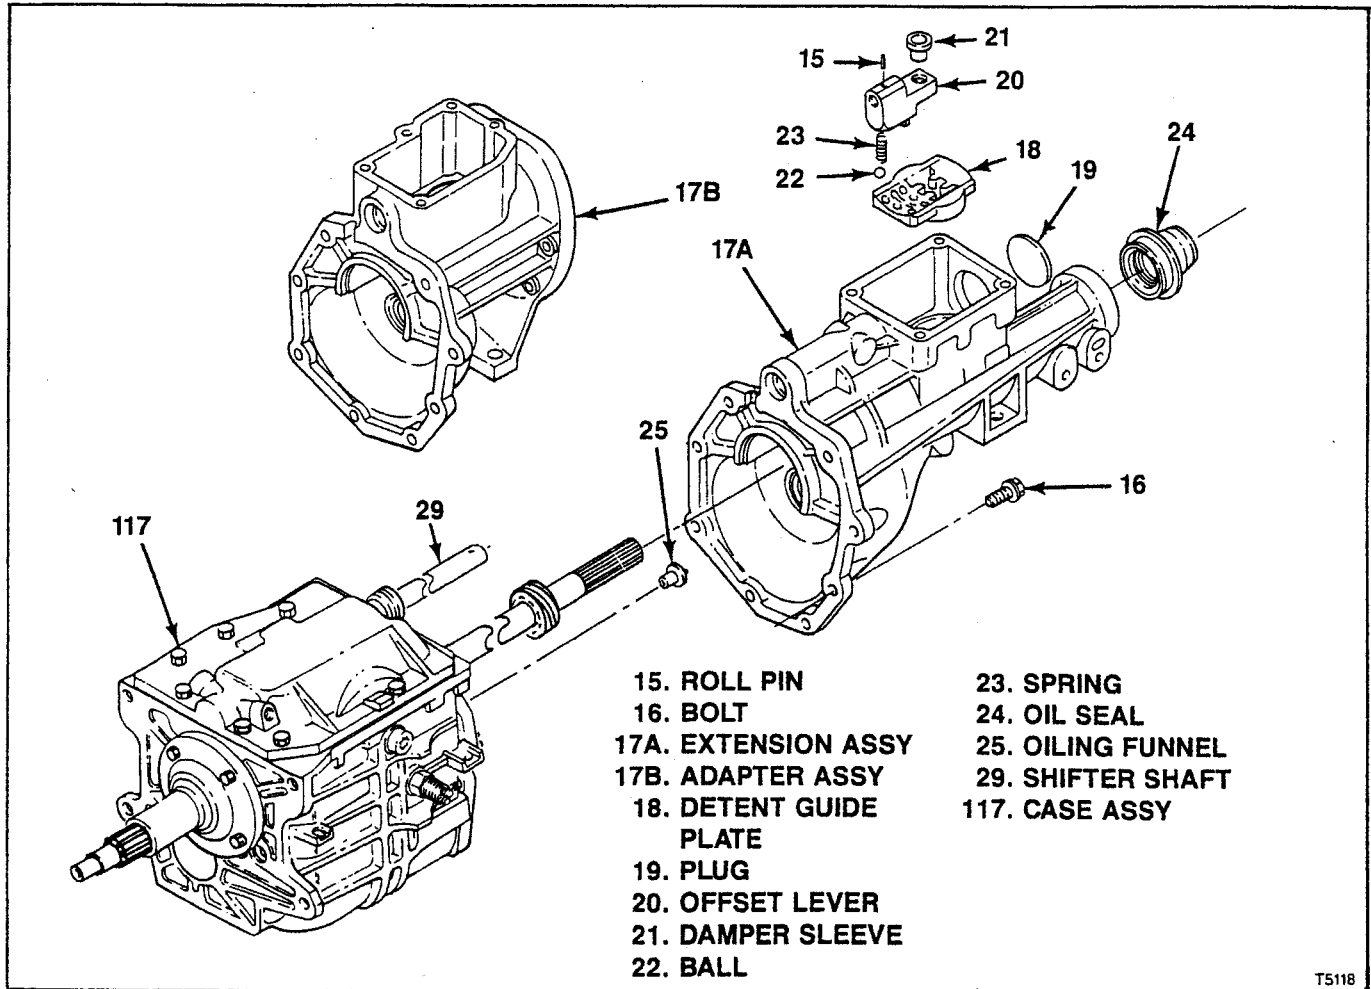

Figure 6-19. T5 WC Extension or Adapter
6-18. INSTALLATION OF T5 WC EXTENSION OR ADAPTER. With case cover installed, proceed as follows (see figure 6-19):
3. Position control lever and housing assembly (3A, 3B or 3C) on extension (17A) or adapter (17B) engaging inside end of lever in damper sleeve (21, figure 6-19) installed in offset lever (20, figure 6-19).
4. Install screws (2). If control lever and housing assembly (3C) is used, also install screws (2A). Torque all screws to 13 lb-ft (17 Nm).
f. Install fill and drain plugs (1) and torque to 20 lb-ft (27 Nm).